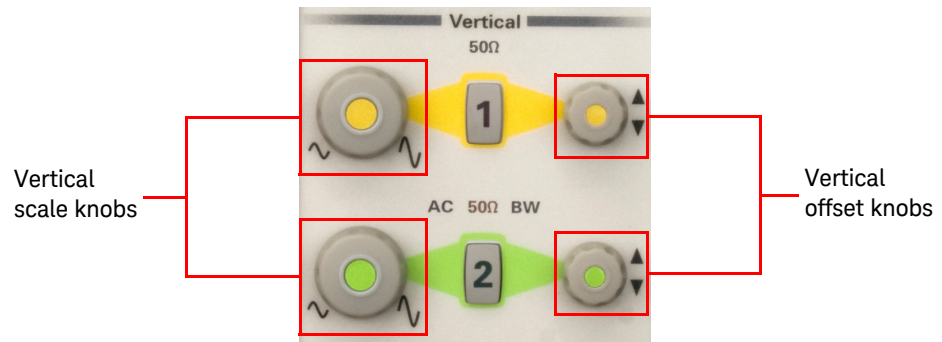

Figure 2-10 Vertical scale and offset knobs in the Vertical section
- 1 To adjust the vertical scale, turn the vertical scale knob of the desired channel in the Vertical section as shown in Figure 2-10.
- 3 To adjust the vertical offset, turn the vertical offset knob of the desired channel in the Vertical section as shown in Figure 2-10.